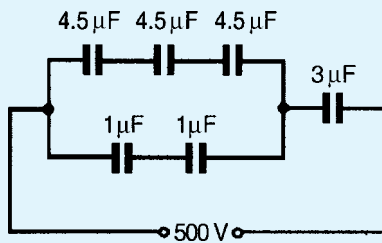

Figure 6.11
6. For the arrangement shown in Fig. 6.11 find